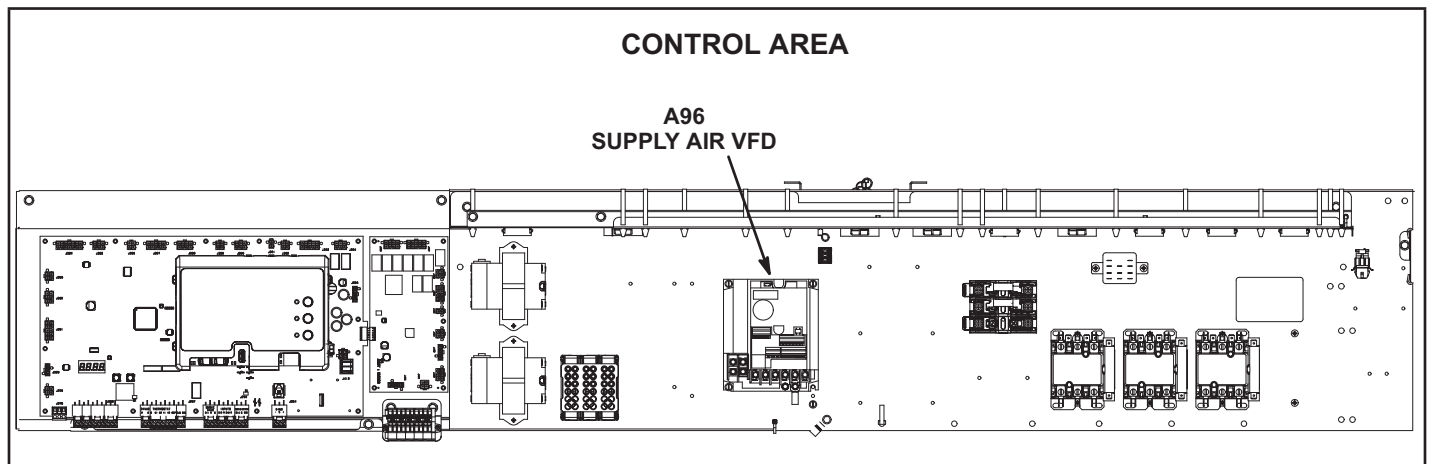

FIGURE 44
Units contain a supply air blower equipped with a variable frequency drive A96 (VFD) which varies supply air CFM. The supply air VFD (A96) is located in the control area. See FIGURE 44.
- 4 - Locate the A55 Unit Controller. Refer to FIGURE 44.